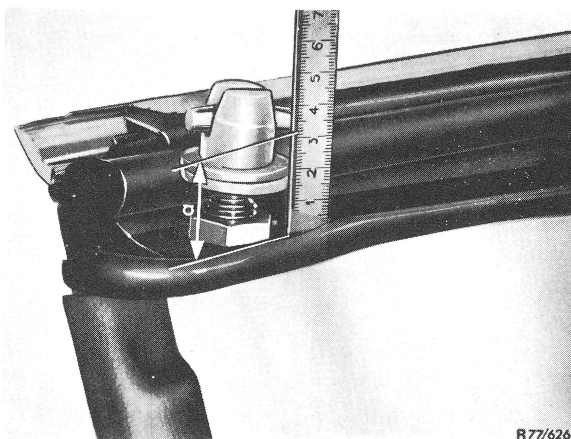

Figure 2
Prior to assembly of closing cap (1) adjust closing hook (3) to  $a = 32 \text{ mm}$  (Fig. 2).